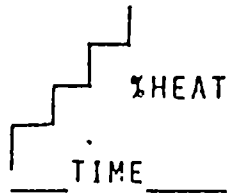

FIG. 1
- ◆Upslope is defined as a stair step ladder, where HEAT% is incremented from an initial value, in small increments and over a specified period of time. (See figure 1)